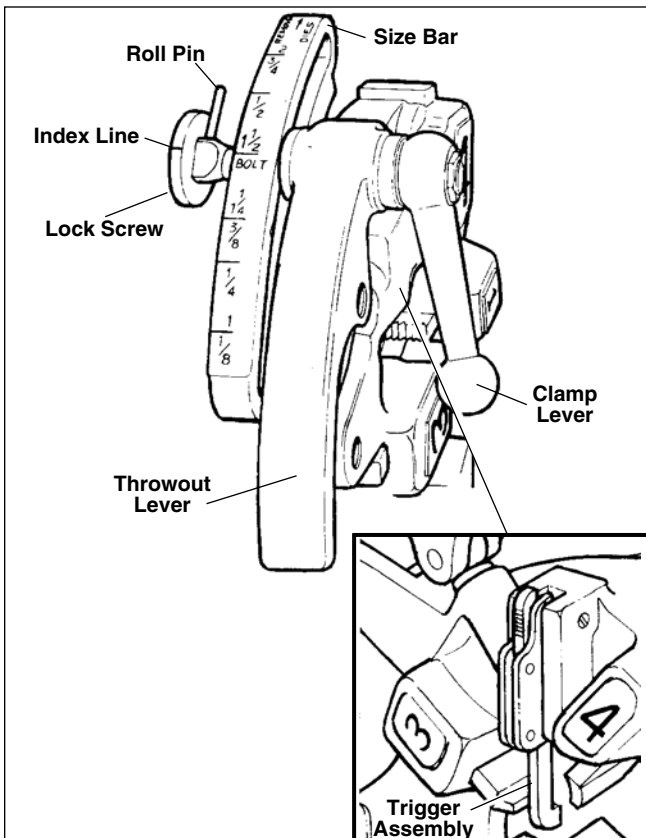

Figure 8 – Nos. 711 and 911 Self-Opening Die Head
7. b. Self-Opening Die Head (*Figure 8*) – When die head end of pipe contacts trigger, throwout lever is automatically opened on tapered threads.
9. Release latch on 713 or 913 die head (*Figure 8*) and swing die head to UP position.
The Nos. 711 and 911 Die Heads (*Figure 8*) for right-hand threads requires three sets of dies to thread pipe ranging from 1/4" through 2". One set of dies is required for each of the following pipe size ranges: (1/4" - 3/8"), (1/2" - 3/4"), and (1" - 2"). Bolt threading requires a separate set of dies for each bolt size.